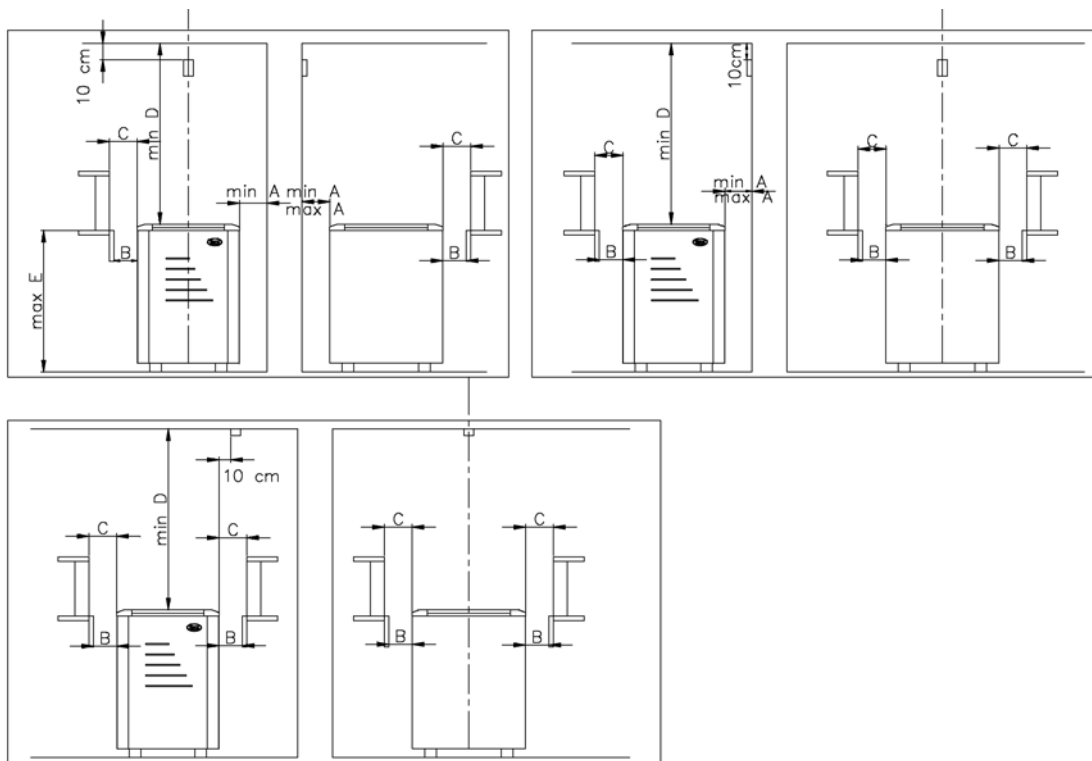

Figure 2. Installation of the sensor casing
- The sensor casing in the control centre is installed according to Figure 2.